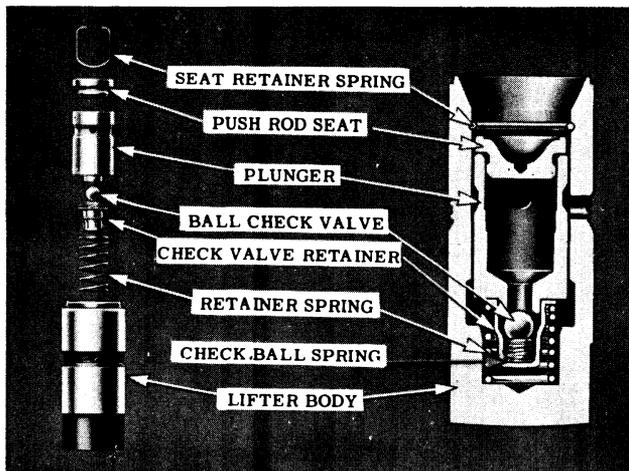

Fig. 8-15 Hydraulic Valve Lifter
2. Drop small spring and ball into check valve retainer. (See Fig. 8-15)